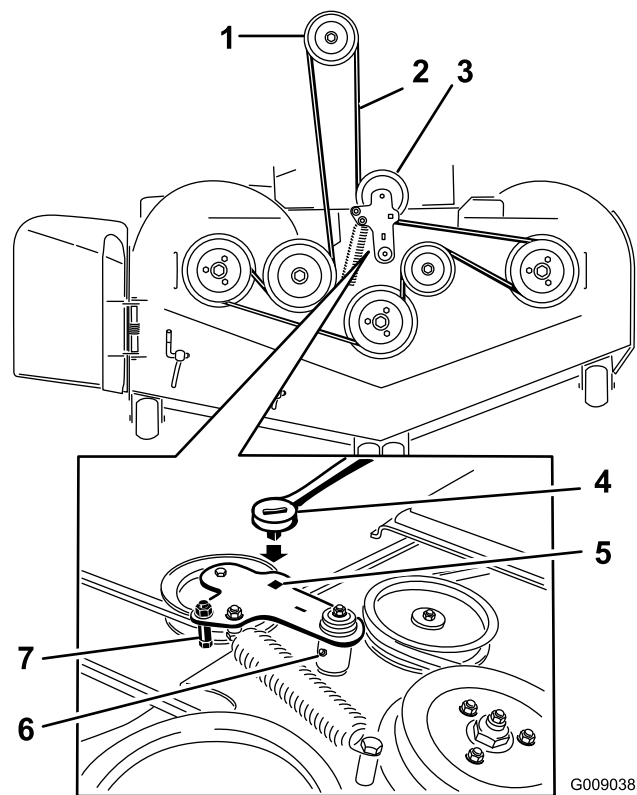

Figure 87
5. Use a ratchet in the square hole in the idler arm to remove tension on the idler spring (Figure 87).
7. Remove the belt guide on the spring-loaded idler arm (Figure 87).
9. Install the new belt around the mower pulleys and the clutch pulley under the engine (Figure 87).
10. Install the belt guide on the idler arm (Figure 87).
11. Using the ratchet in the square hole, install the idler spring (Figure 87).